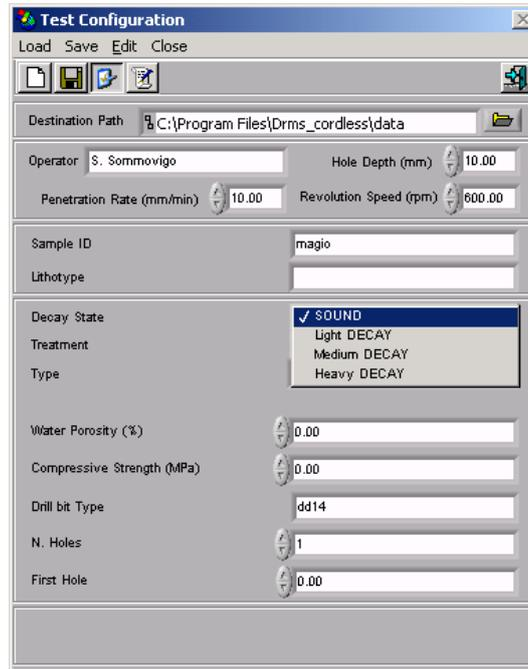

Figure 12 - State of decay options
2. Decay State: state of decay of the material being tested (Figure 12). You can choose from SOUND (no decay), LIGHT decay, MEDIUM decay, HEAVY decay